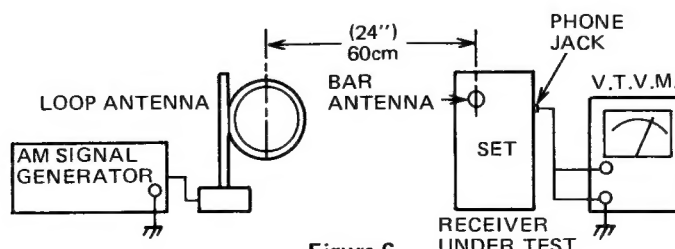

Figure 6
1. MW ALIGNMENT CHART (Fig. 6)
2. SW1 (120 ~ 60mb)/LW ALIGNMENT (Fig. 6)